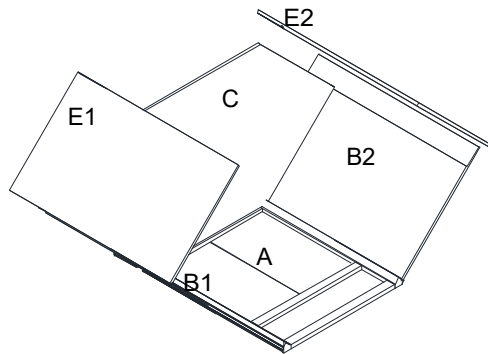

Figure 5
4. Installing the Rear Side Panels (Figure 5): Insert rear left side panel (E1) and right side panel (E2) into the grooves of the side panels (B1,B2) aligning side panels & bottom panel with rear side panels. Lock each cam lock connector with a screwdriver by turning the screw. **(Figure 3)**